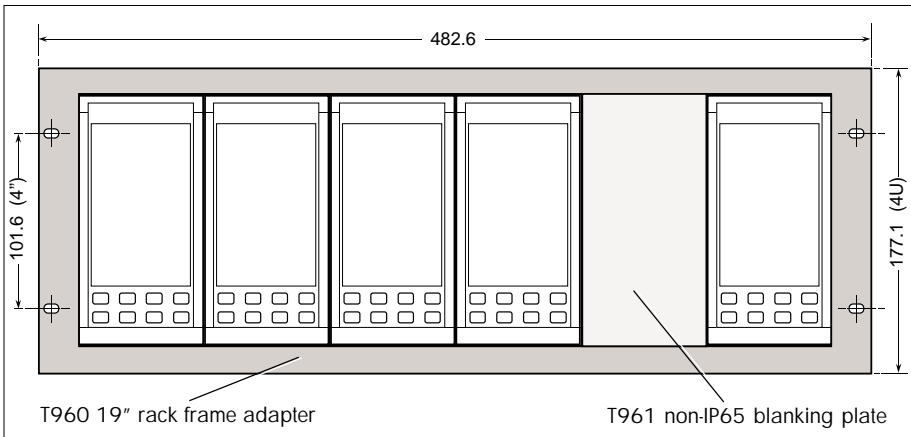

Figure 2-5 Using a multi-way panel aperture for non-IP65 applications
- Sleeves may be mounted side-by-side in multiple-way apertures. Figure 2-5 shows an example of five DIN43700 instruments and one T961 blanking plate mounted in a T960 19" rack frame adapter.
- Non-IP65 blanking plates (T961) may be used for empty single apertures or empty locations in multiple-way apertures (see Figure 2-5).